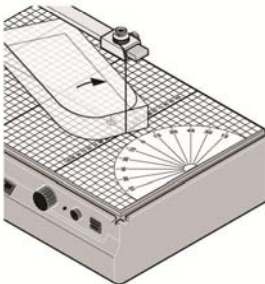

Fig. 7
- You can make a simple device yourself for cutting circular segments. Fix a drawing-pin at the center of the required circle on the working table with a piece of tape. Fix the work piece onto the pin and turn the work piece around the pin (Fig. 7).